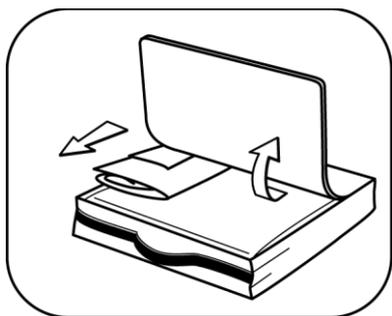

FIGURE 7
1. Retrieve canopy from survival kit. It is tethered to the liferaft and may be either floating in the water or still connected to raft valise. Open kit bag and remove canopy (See Figure 7).